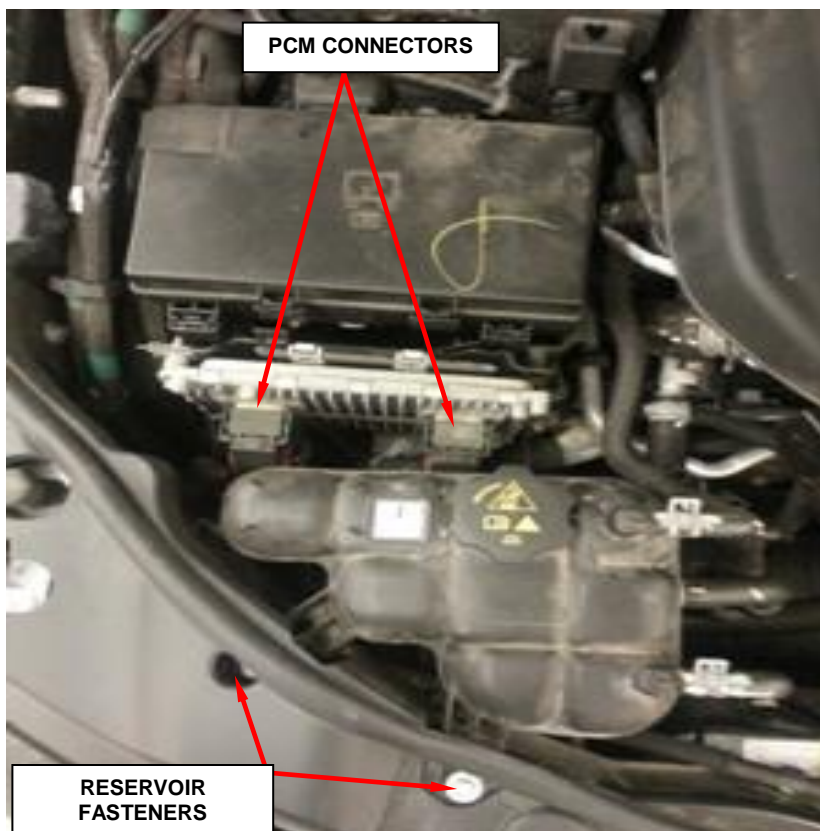

Figure 26 – Coolant Reservoir
2. Remove the coolant reservoir fasteners and carefully position the reservoir to gain access to the PCM connectors (Figure 26).
10. Reinstall the coolant reservoir and tighten the fasteners to 10 N·m (89 in. lbs.). (Figure 26).